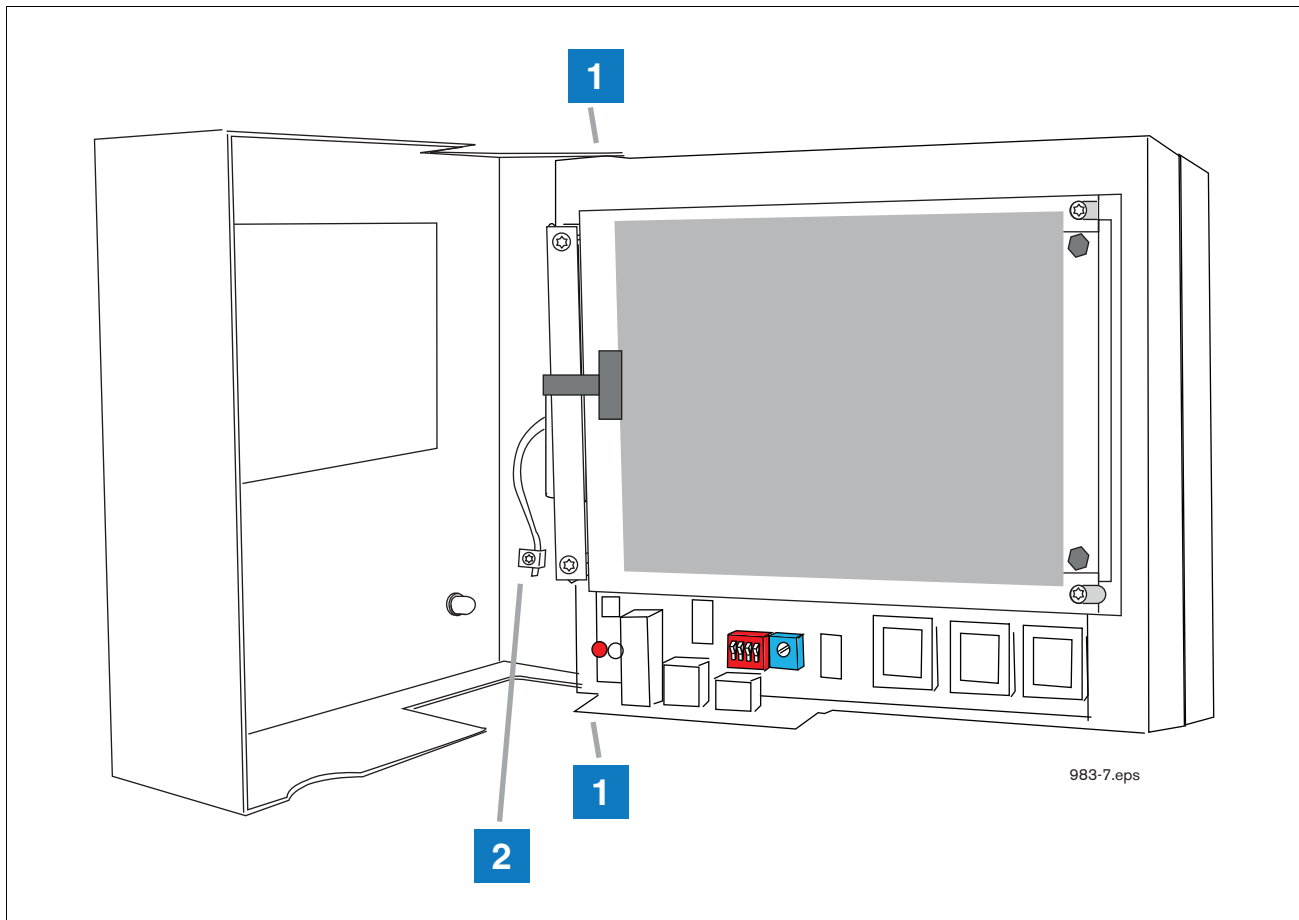

Figure 6. Attaching the new door to the TLS2P console
- 2 Position the door over the left holes in the top and bottom of the console and screw in the two shoulder screws (item 1 in Figure 6).
- 3 Loosen the grounding clamp (item 2 in Figure 6) in the door and push the grounding strap from the console under the saddle clamp and tighten the screw.
- 1 Remove the static preventing grounding strap from the inner door. Remove the two right T-15 torx screws holding on the inner door (item 1 Figure 6), close the new outer door, reinsert the two shoulder screws in the two holes in the door and tighten securely.